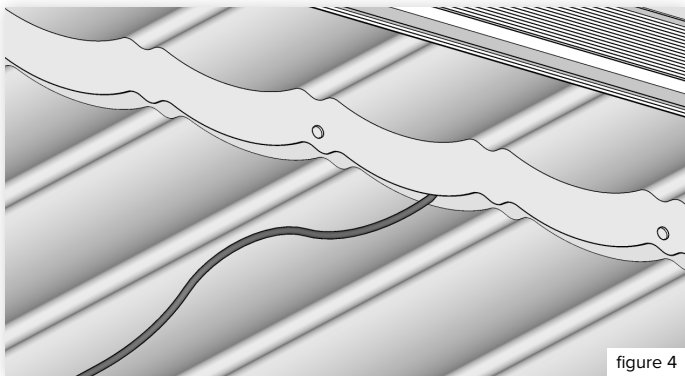

figure 4
10. Lift one of the two loose metal tile sheets and thread the cable under the sheet and down into the attic space as per figure 4. Refix the metal tile sheet with nails.